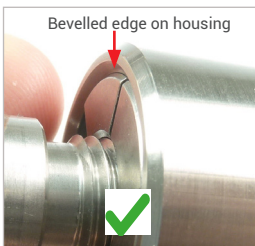
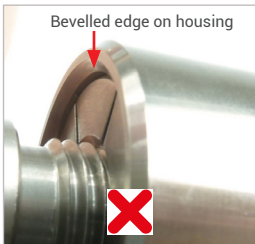

Figure 7
Figure 8
- ▶ Release the hand lever (Pos. 2). The connector tightens itself to the test piece and creates a pressure-tight connection. The plane surface of the clamping jaws is at the same height as the chamfer of the housing (Figure 7). **Attention:** Make sure that the clamping jaws on the test piece grip correctly and that the plane surface of the clamping jaws is not behind the chamfer of the housing (Figure 8). Make sure that the connector is seated properly (it must not wobble) and that the pressure-tight connection has been made. Only then is the connector connected correctly. Otherwise the connector may spring out of place and medium may escape.